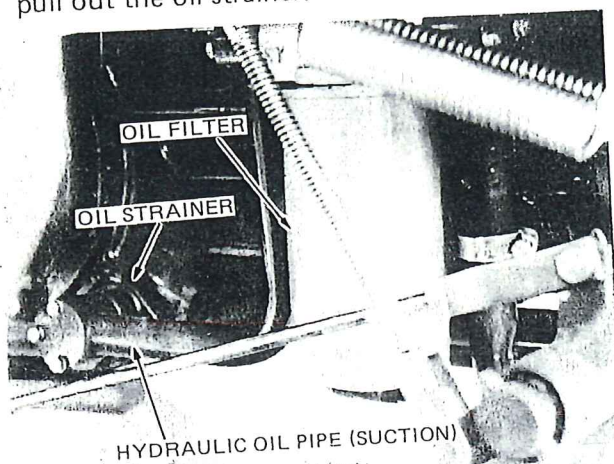

Figure 47 — Hydraulic Oil Filter and Strainer
Changing the Oil Filter Cartridge: The filter is located under the right-hand step, Figure 47. Change the filter after the first 50 hours of operation and every 300 hours.
1. Unscrew the oil filter, Figure 47, catching the used oil in a suitable container placed below the filter. Discard the filter.